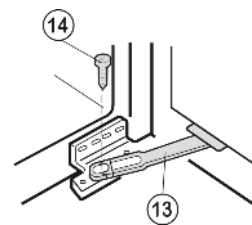

Fig. 8
- ▶ To detach the stop Fig. 8 (13): undo the screw Fig. 8 (14).